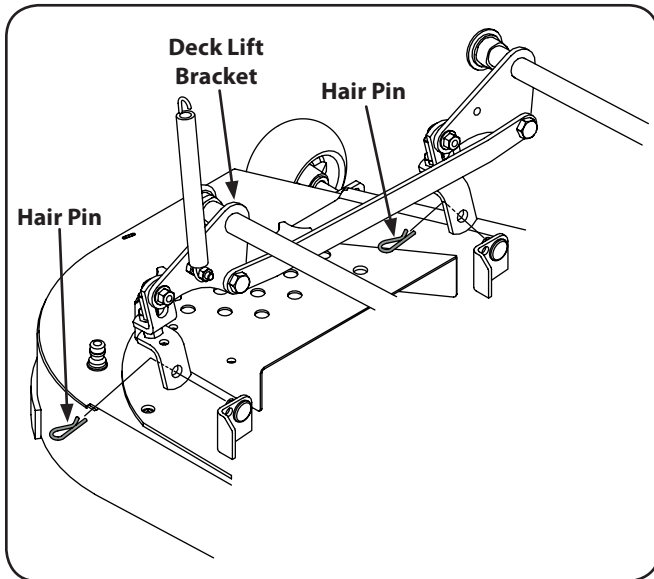

Figure 7-3
- Remove the four hair pins from the right and left side of the deck lift bracket. See Figure 7-3.